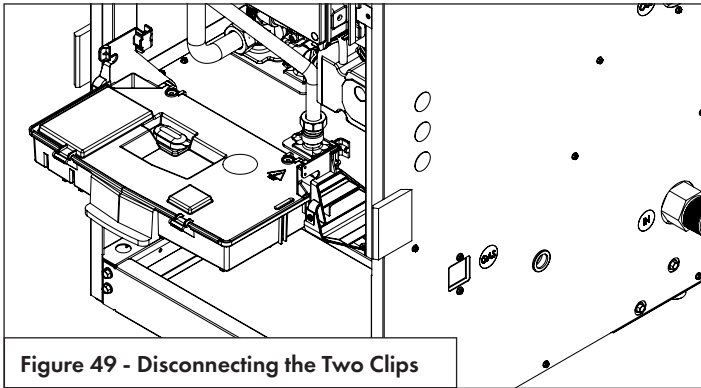

Figure 49 - Disconnecting the Two Clips
5. Disconnect the two clips. See Figure 49.